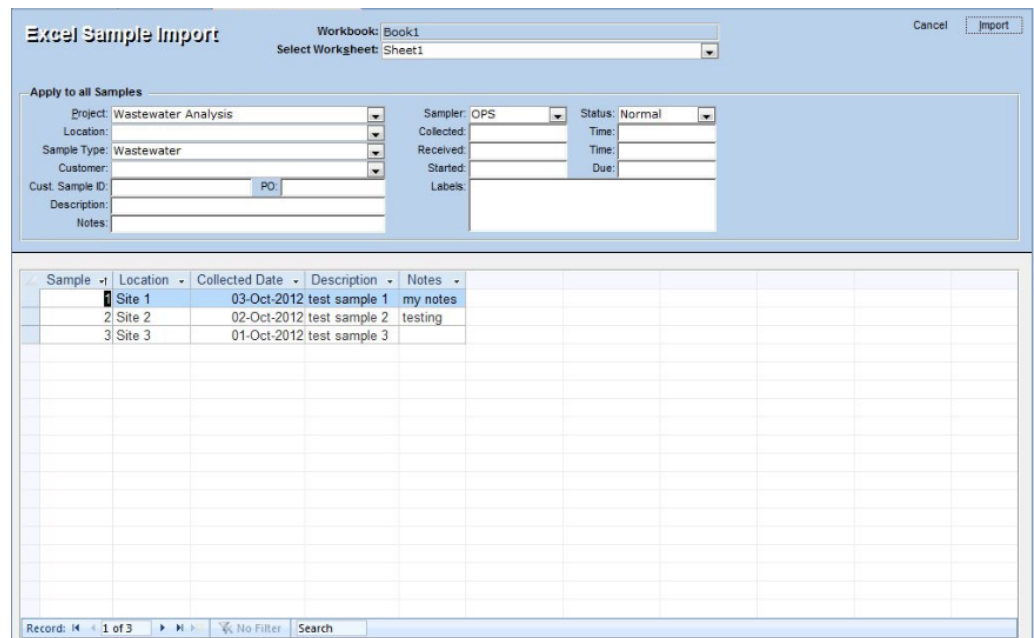

Figure 13 Excel Sample Import
4. Use Spreadsheet | Import Samples to open the Excel Sample Import screen. Select the worksheet from the picklist to retrieve the sheet's samples into the Excel Sample Import screen (see Figure 13). Verify the data, select any sample characteristics that should be applied to all samples and click [Import] to add the samples to the Batch Login screen.